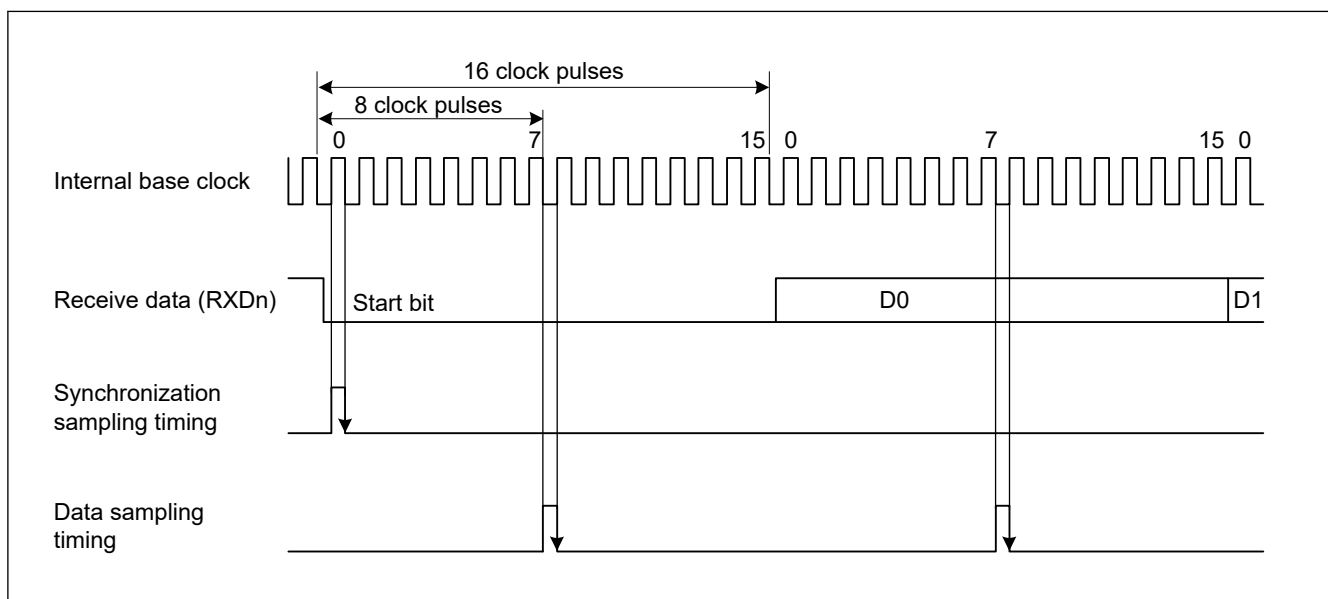

Figure 38.7 Receive data sampling timing in Asynchronous mode
Because receive data is sampled on the rising edge of the 8th pulse^{*1} of the base clock, data is latched at the middle of each bit (when sampling timing does not adjust (CCR4.ASEN = 0 or CCR4.ASEN = 1 and CCR4.AST[2:0] = 000b)), as shown in Figure 38.7 The reception margin in Asynchronous mode is determined by the following formula (1):
The determination condition of a start bit is that Low beyond half bit length continues. It is same as the sampling timing. In Figure 38.7, Low period should be kept over 8-cycles to detect a start bit. If Low period does not keep over 8-cycles, the IP judges this as a noise. So, the IP does not start reception and wait start bit.